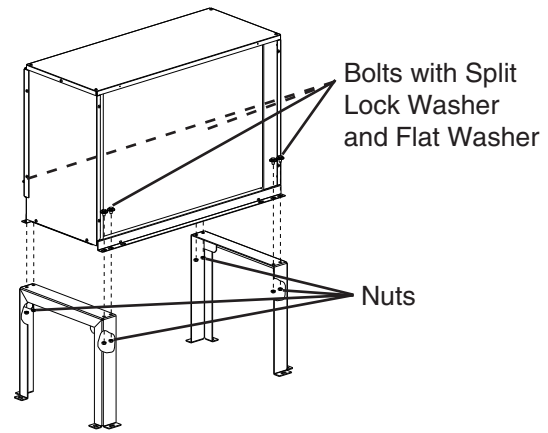

Fig. 5
- 1) Secure the legs to the remote condenser unit with the 8 bolts and nuts provided. See Fig. 5.